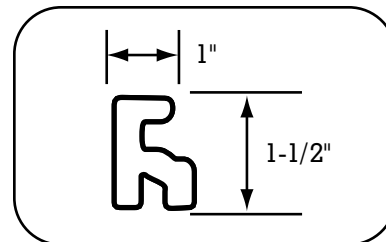

Fig. 2
- Starter Strip (12' length) (Fig. 2)